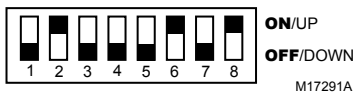

Fig. 3. Dip Switch Settings.
2. Configure the SLTA-10 for remote communications with switch 2 (Remote Host), 6 and 8 (38.4K bps) in the up position, as shown in Fig. 3.